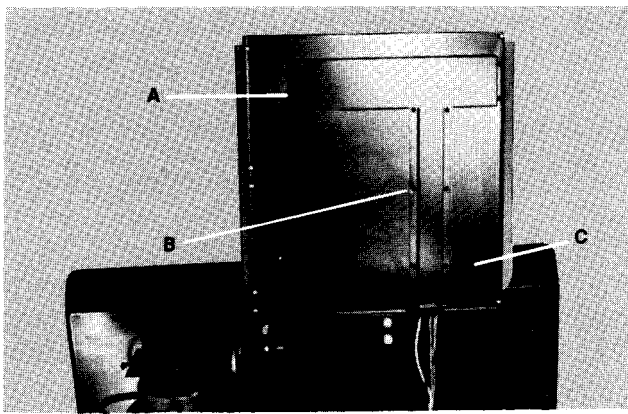

Fig. 11
- 4) Remove back cover from receptacle and switches by removing (4) # 6 Phillips Screws. Item A, Fig. 11. Remove wire raceway by removing (6) Phillips Screws. item B, Fig. 11.
- 5) Remove (3) # 6 Phillips Screws from corners of wood panel. Item C, Fig. 11.
- 26) Replace wire raceway. Align wires so none are pinched and install (6) # 6 Phillips screws. Item B, Fig. 11.
- 27) Replace back cover on switches and receptacle. Check wire routing so that no wires interfere with switch mounting and terminals. Install (4) # 6 Phillips screws, Item A, Fig. 11.